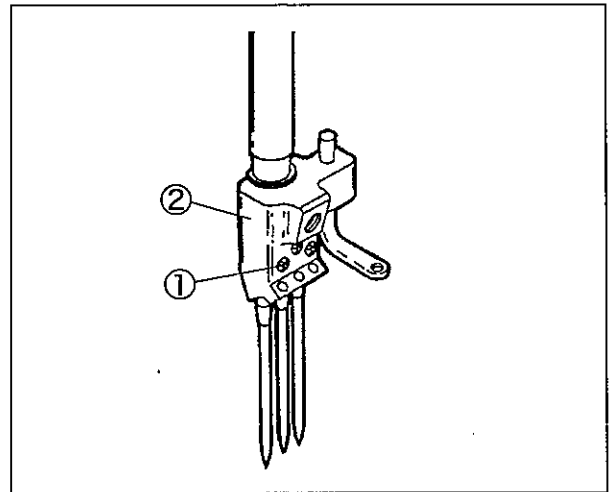
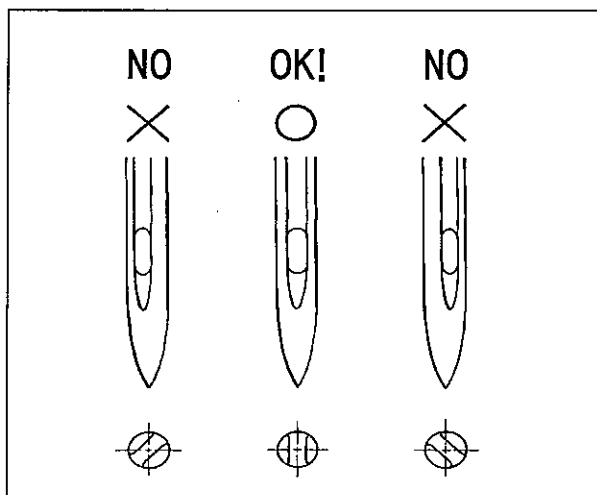

Fig. 23
Fig. 24
- (1) Loosen the screws ① with a screwdriver. (Fig. 23)
- (2) Remove an old needle with a pair of tweezers.
- (3) Insert a new needle into the needle clamp ② as far as it will go with facing its scarf to the right back. (Figs. 24 and 25)
- (4) Tighten the screws ① with a screwdriver